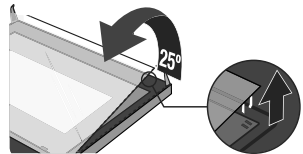

Figure 4
4. Separate the glass carefully by lifting it approximately 25°. (Figure 4)